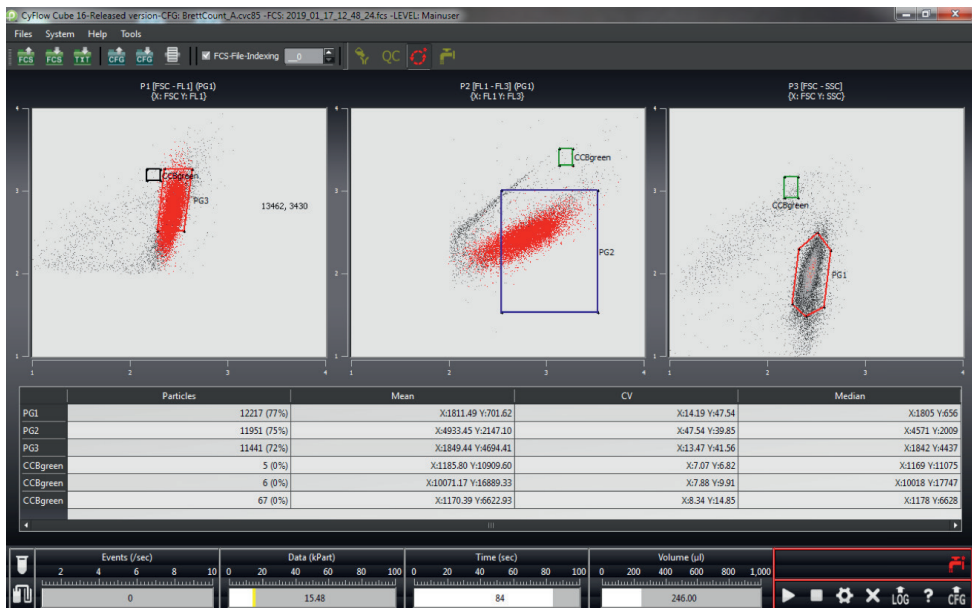

Figure 2: CyFlow™ BrettCount assay
- M07.** The measurement automatically stops at the end of analysis. 250 µL of wine sample will be counted (**Figure 2**, page 10).
- Prepare and run a positive control sample, e.g. *Brettanomyces bruxellensis* from culture and create 3 polygonal gating regions on the detected cell population (refer to Figure 2):